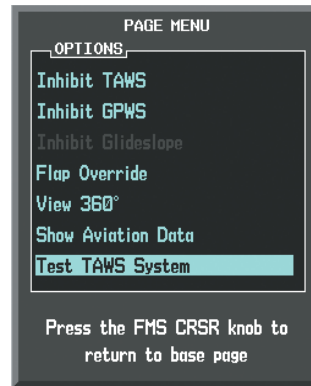

Figure 6-149 TAWS-A Page Menu
- 3) Select ‘Test TAWS System’ and press the **ENT** Key to confirm the selection (Figure 6-149).